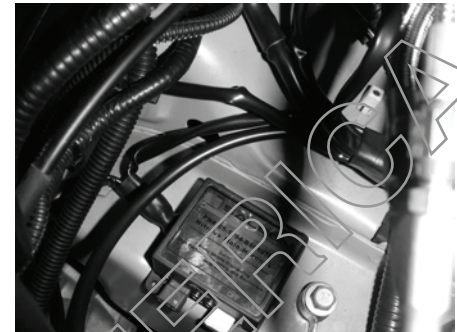

FIGURE 45
73. Clean the top of the driver's side fender-well painted surface. Remove the cover from the double-sided tape on the main harness (00-1704-C08258*) and place the switch on the top of the fender-well, in front of the strut tower. **(FIGURE 45).**